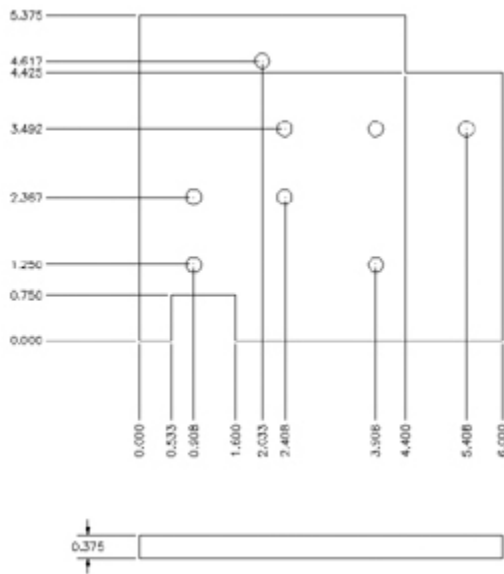

Figure 13-64
- 8** Save your drawing. Your drawing should resemble Figure 13-64.